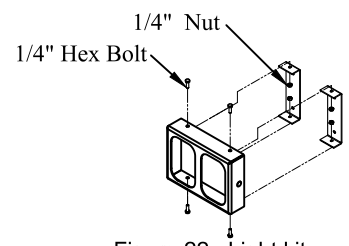

Figure 22: Light kit.
14. Assemble each light kit as shown using the supplied 1/4" bolts and nuts. Do not tighten at this time (Figure 22).